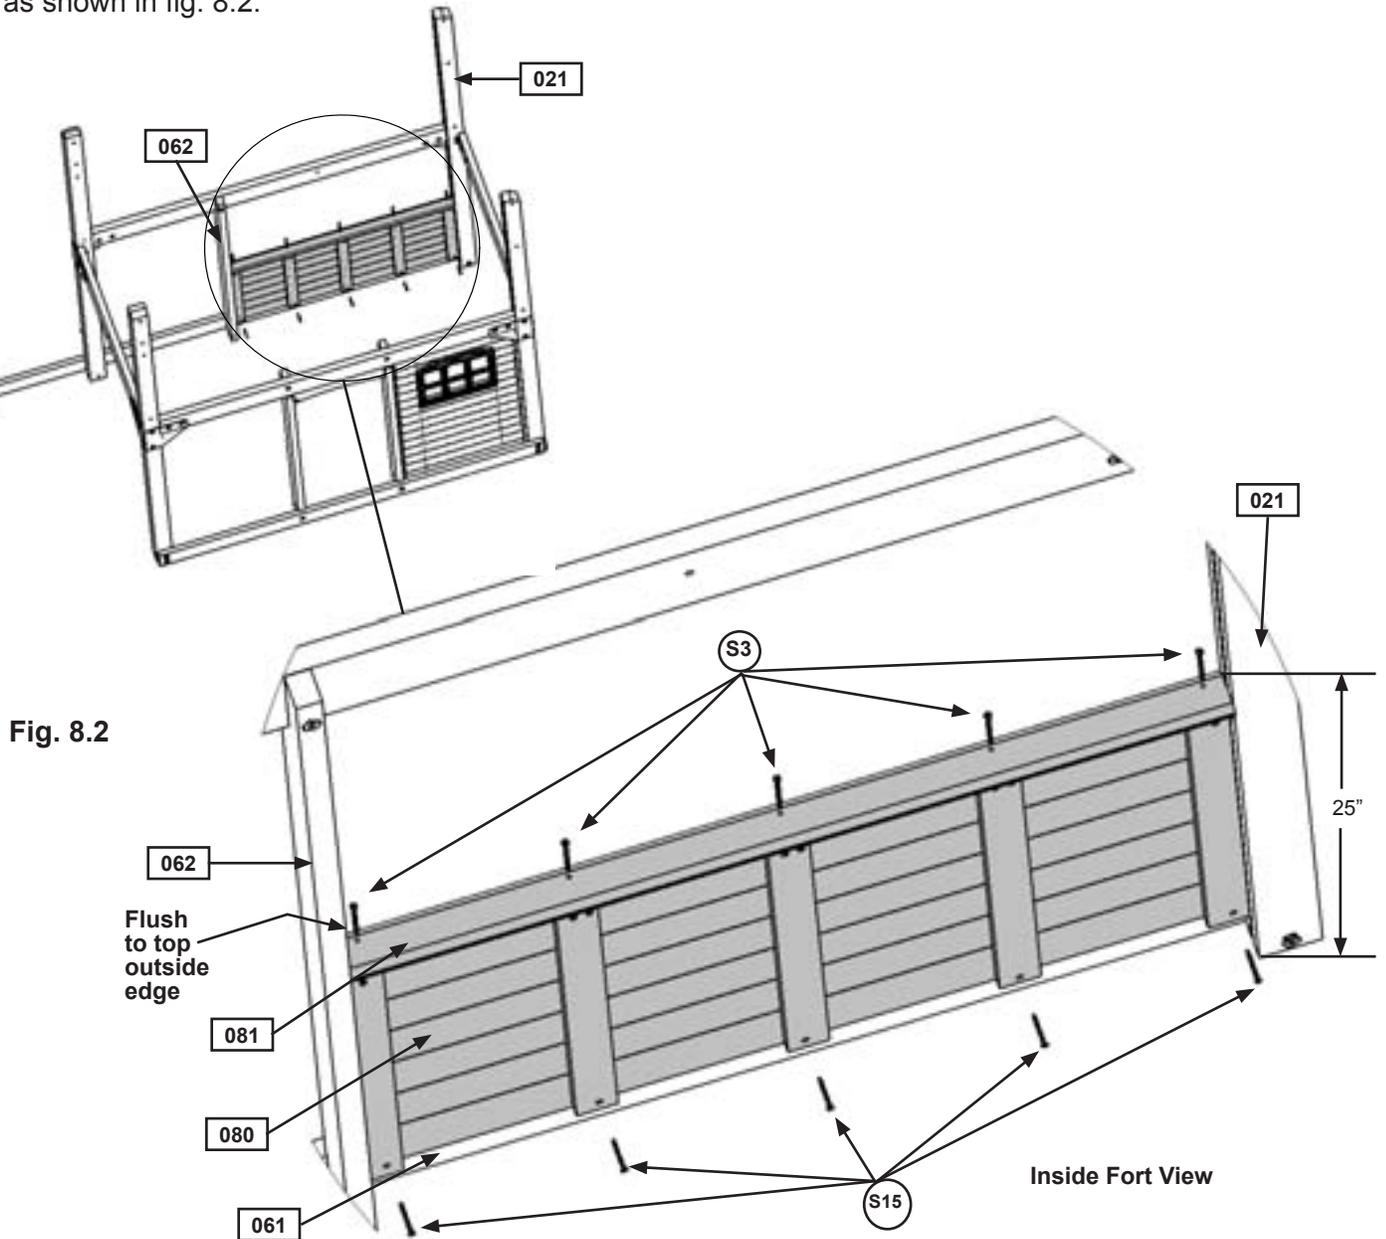

Fig. 8.2
B: Attach (080) Back Half Panel to (061) Ground Back using 5 (S15) #8 x 1-3/4” Wood Screws as shown in fig. 8.2.
C: Attach (081) Top Cafe flush to the top outside edge of (080) Back Half Panel using 5 (S3) #8 x 2-1/2” Wood Screws as shown in fig. 8.2.